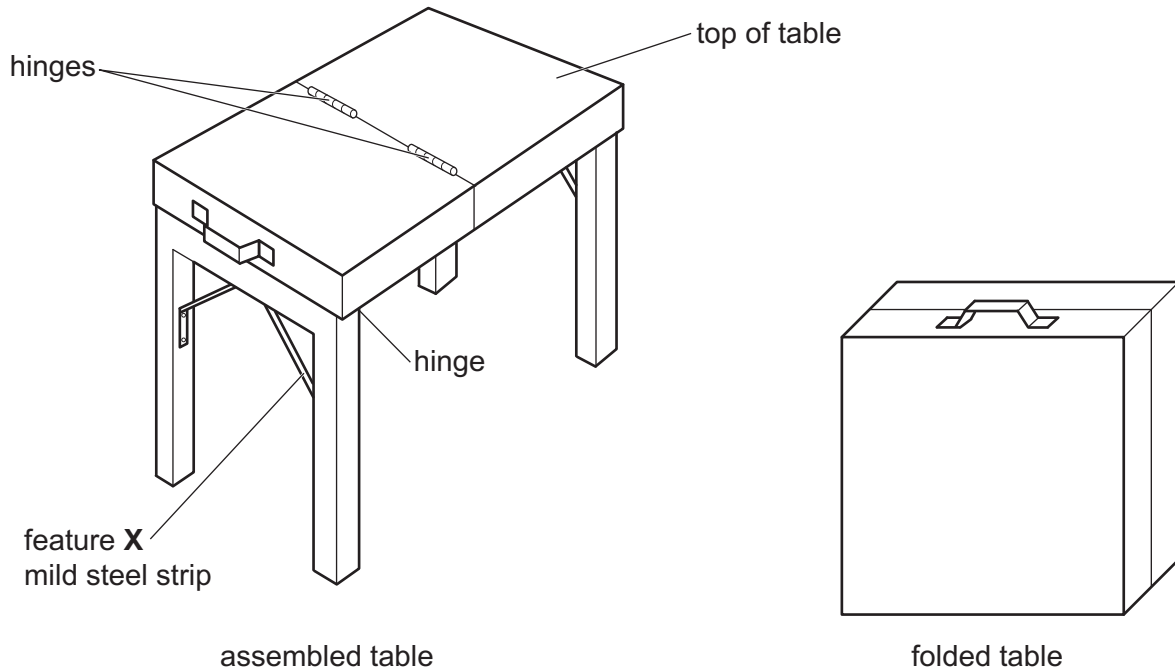

Fig. 4.1
- 4 Fig. 4.1 shows an incomplete design for a folding table.